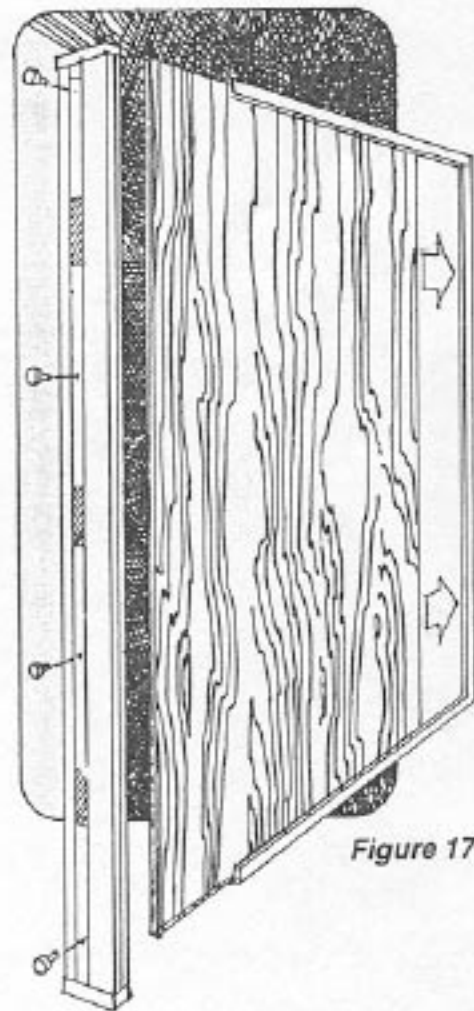

Figure 17
C) Slide panel into frame on door as shown in Figure 17.
B) With standard Phillips screwdriver, remove door handles on freezer and refrigerator doors (door handles also act as a door trim, see Figure 17).
G) Install door panels by sliding into frame on door as shown in Figure 17.